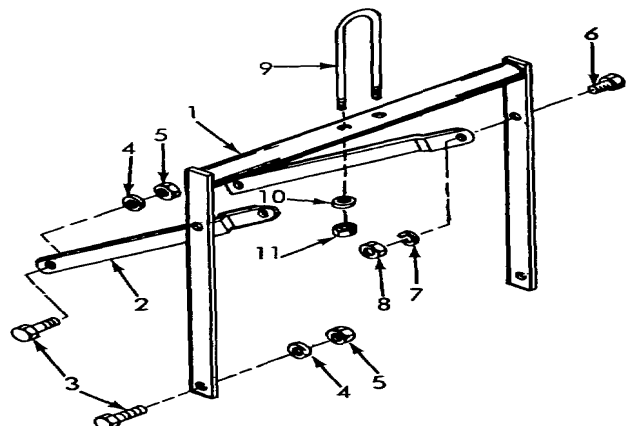

FIGURE 3-10. LIFTING BAIL
a. Removal & Disassembly - Refer to Fig. 3-10 for removal and disassembly of the lifting bail.
Refer to par. 3-18 and fig. 3-10 and reassemble and install the lifting bail.
LEGEND FIGURE 3-10